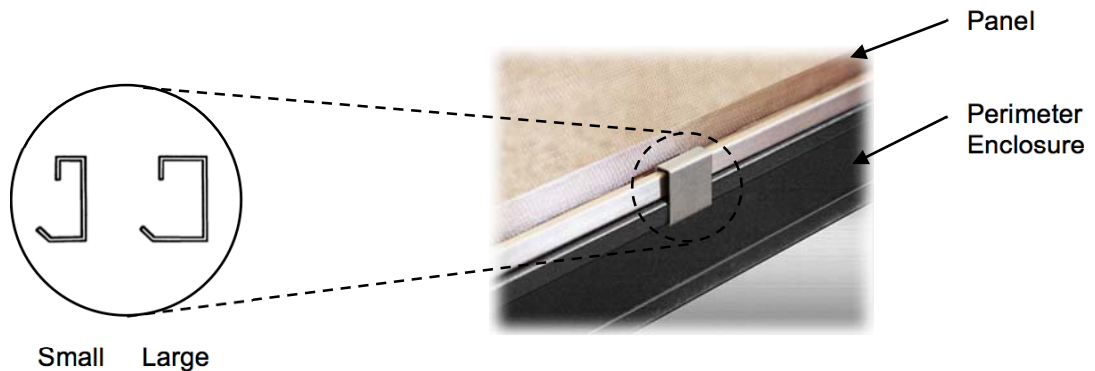

Figure 6, *Hold down clip*
**Step 9** Snap two small size hold down clips evenly spaced along the bottom of rear panel the same as shown in figure 6 above for side panels.